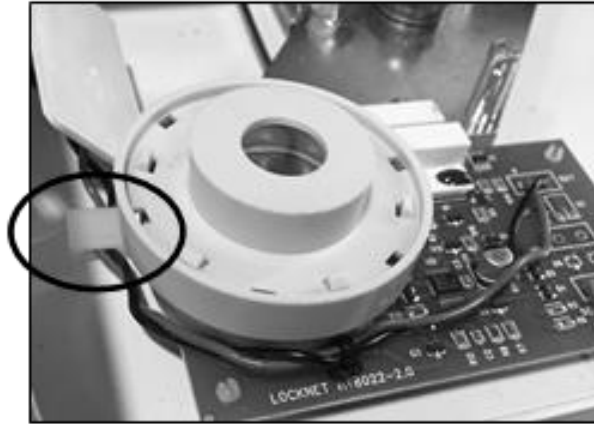

FIGURE A.5
- A-5.** Reposition the clip that secures the battery wires to the unit, using caution so as to not pull the battery wires out of the Alarm Board (See Figure A.5). The clip should be positioned on the same side as the Battery Bracket Assembly. If the Battery Bracket Assembly's location is now on the left of the unit, route the battery wires below the Alarm.